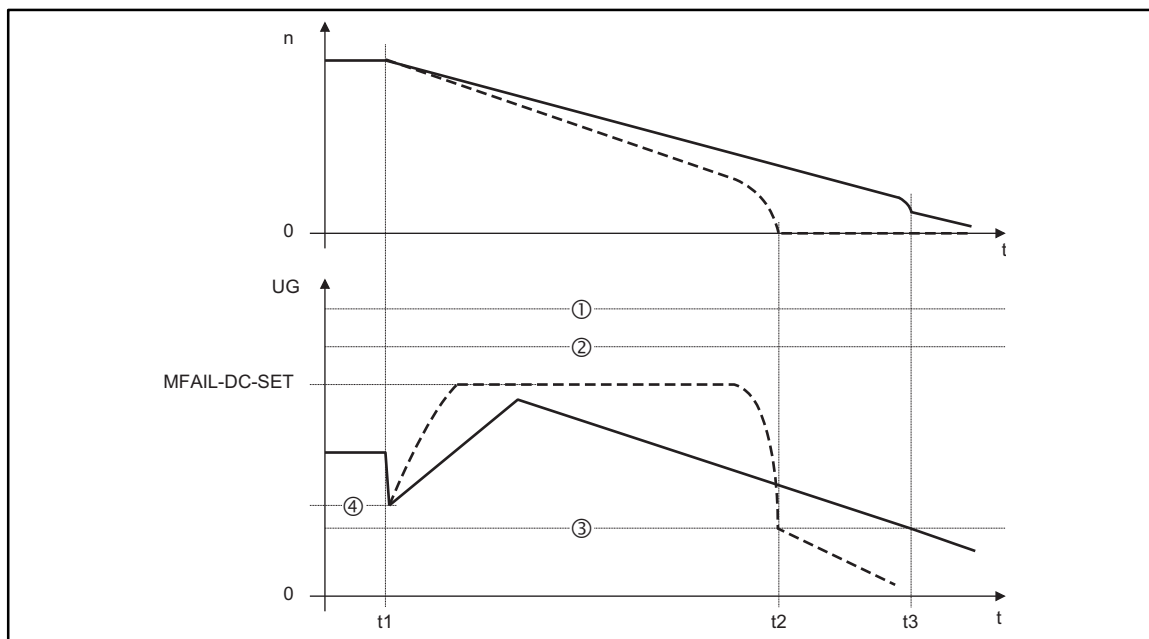

Fig. 7-115
3. An increase of the deceleration time or reduction of the brake torque (see Fig. 7-115) is only possible with restrictions: